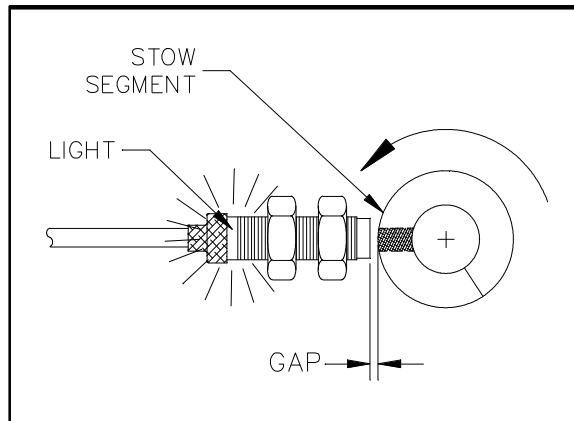

FIGURE 4-3: TARGET ADJUSTMENT
- c. Refer to **Figure 4-3**. Adjust the gap between each sensor and the outside diameter of the target to $0.060" \pm 0.030"$. **Do not allow sensors to contact target.** Tighten sensors jam nuts.
- e. When the ramp is approximately 10 inches from being fully stowed, the sensor should engage the target and illuminate the LED on the sensor. **Figure 4-3** shows position of target when the ramp is fully stowed.